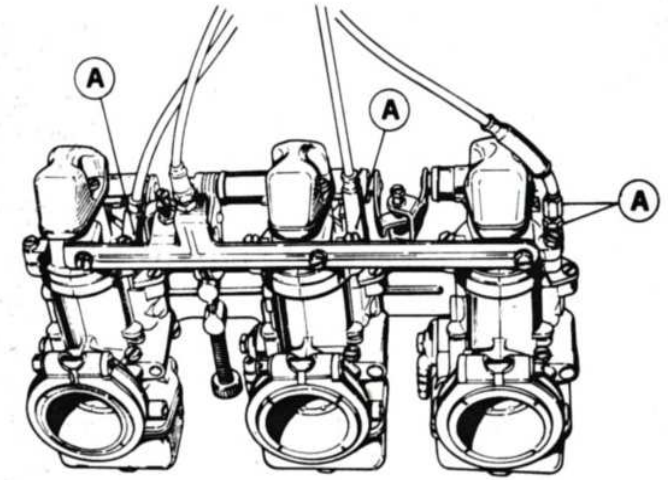

Fig. 76
Each carburetor is provided with an adjuster. (A) Fig. 76